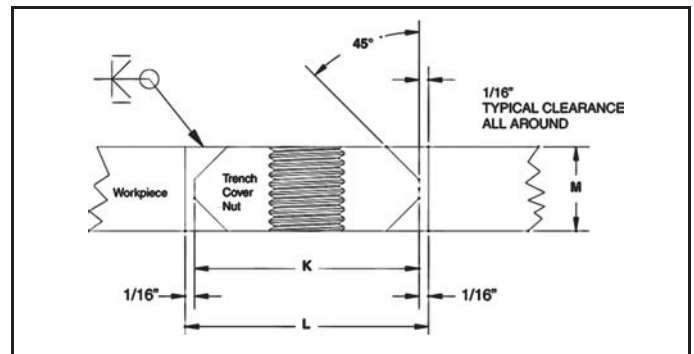

Figure 5
3. Insert the trench cover nut into the hole. The trench cover nut should have 1/16" clearance around its outer edge. The surface of the trench cover nut must be parallel and even with the surface of the workpiece (See Figure 5). A welding fixture is available from Crosby for this.